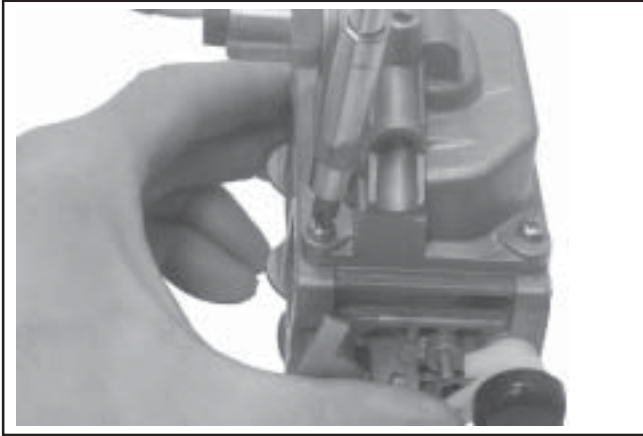

Figure 5-32. Installing Fuel Bowl.
16. When the proper float height is obtained, carefully reinstall the fuel bowl, using new O-Rings onto the carburetor. Secure with the four original screws. Torque the screws to  $2.5 \pm 0.3 \text{ N}\cdot\text{m}$  ( $23 \pm 2.6 \text{ in. lb.}$ ). See Figure 5-32.